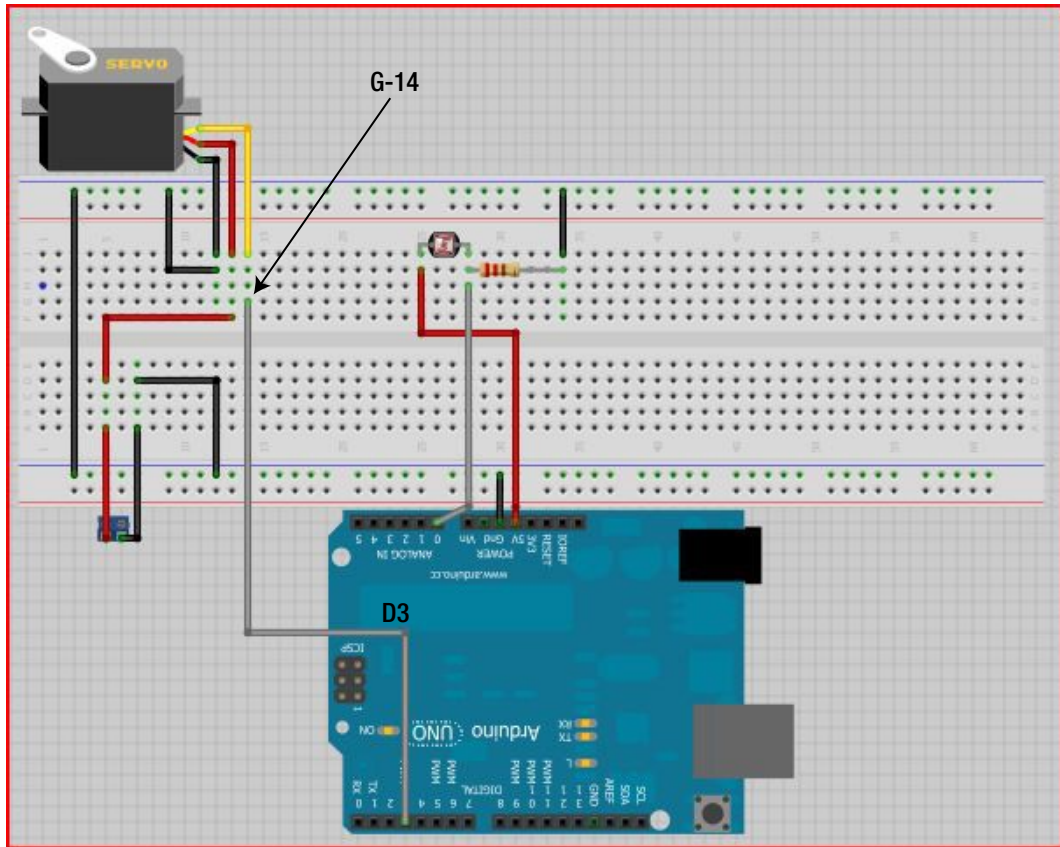

Figure 27-14. Connect digital pin 3 of the Arduino to the servo's signal pin
13. Use another jumper wire (we used green) to connect digital pin 3 (D3) on the Arduino to G-14 of the breadboard. Figure 27-14 illustrates this process.